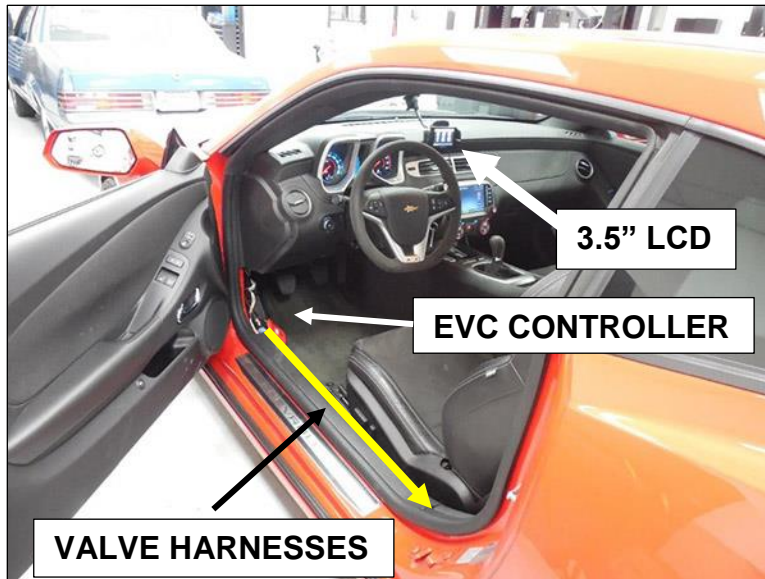

Figure 5
The EVC wire harness is a universal harness intended to accommodate a wide range of applications. It is good practice to mock install the controller and harnesses to be sure the intended routing does not have any unexpected issues. Plan the placement of the 3.5" LCD so it can be easily accessed and not interfere with the safe operation of the vehicle (**Figure 5**).
2. Mount the controller into the open area behind the driver's kick panel above the body harness bulkhead and secure away from the parking brake mechanism using the supplied cable ties (**Figure 5**).
NOTE: Using a cell phone holder with a windshield mount works well to hold the 3.5" LCD touch screen (**Figure 5**).